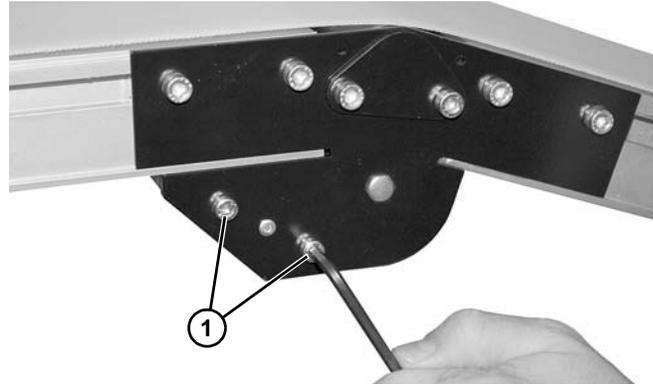

Figure 64
1. Remove screws (**Figure 64, item 1**) on both sides of conveyor.